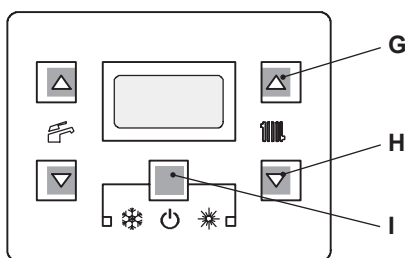
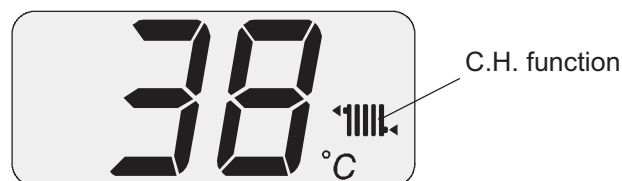

Figure 8.5
Figure 8.10
- 16 To enter in the parameters setting mode press sequentially and hold in the 3 keys ("G - H - I" Figure 8.5) for 10 second until the display shows Figure 8.6.
- 17 Press keys "G" and "H" (Figure 8.5) at the same time until the display shows the letters **LP** that alternate with the heating water temperature value (e.g. 45), indicating the activation of the "chimney sweep function" at minimum output (Figure 8.7).
- 24 Press keys "G - H - I" (Figure 8.5) at the same time again to exit the "chimney sweep mode" and return to the previously set boiler status (Figure 8.10);